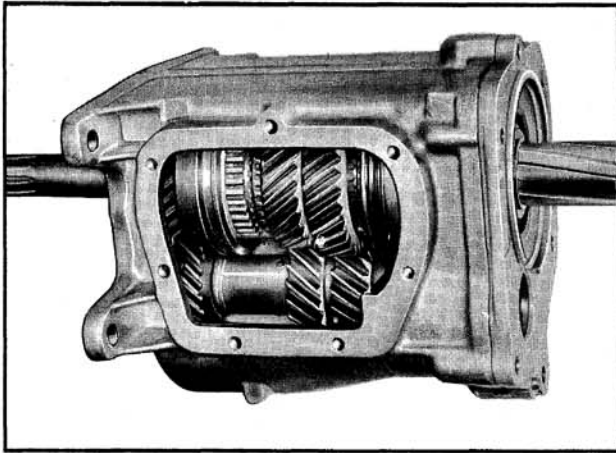

Fig. 7-60 Third and Fourth Speed Synchronizer Clutch Sleeve in Fourth Gear Position
- NOTE: Slide 3-4 synchronizer clutch sleeve to fourth-speed gear position (forward) before trying to remove mainshaft assembly from case. (Fig. 7-60)